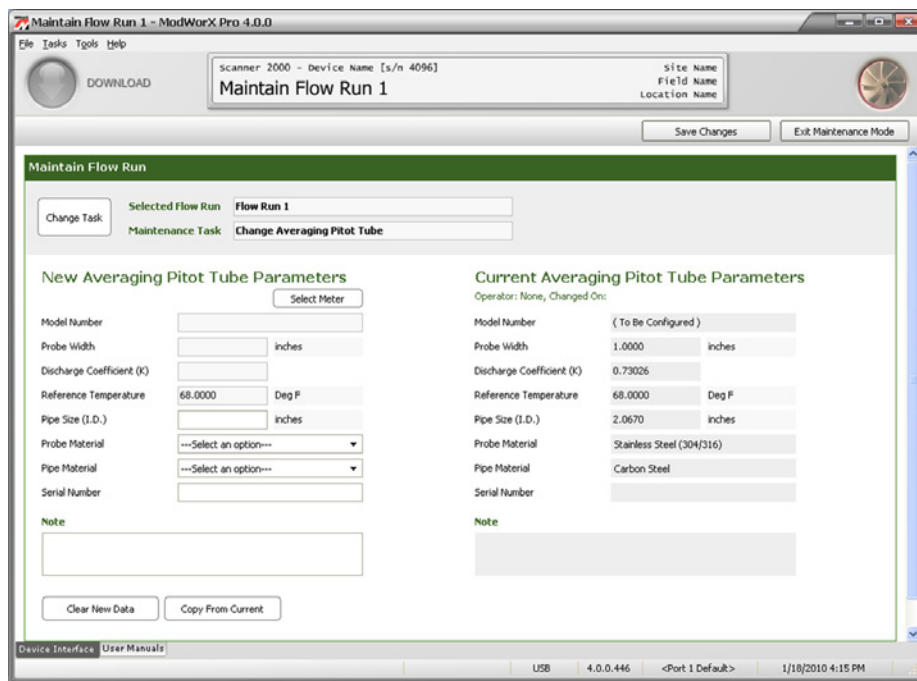
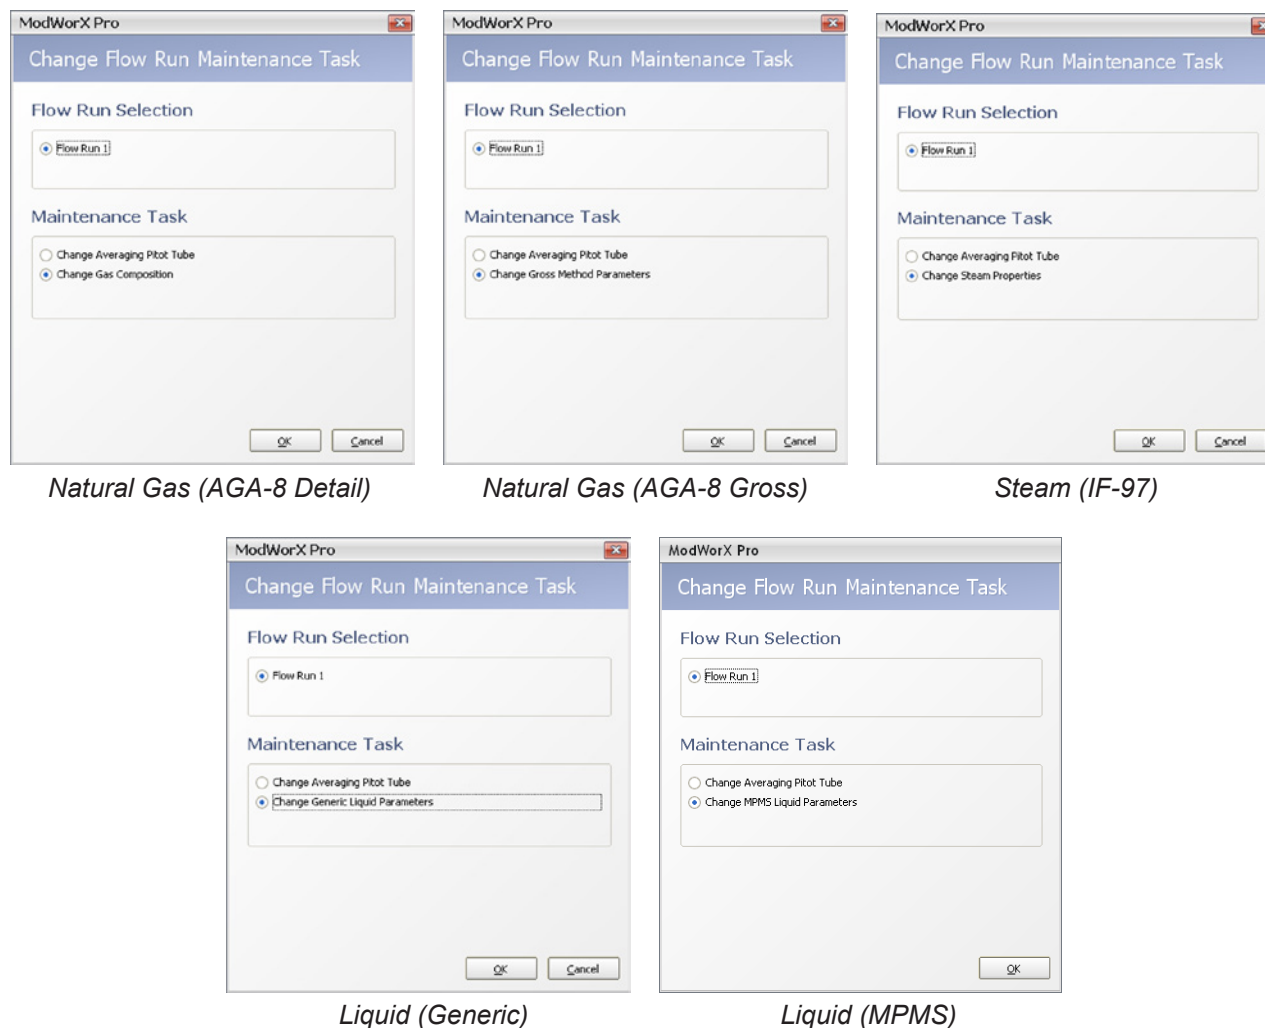

Figure 11.3
Figure 11.4
5. Click **OK** to save the selections. The Maintain Flow Run screen will appear (Figure 11.3).
1. If Change Averaging Pitot Tube is not displayed in the Maintenance Task field at the top of the Maintain Flow Run screen, click on **Change Task** (Figure 11.3, page 156). The Change Flow Run Maintenance Task dialog will appear (Figure 11.4). The selections available on this screen will vary, depending on the fluid property calculation method selected, as shown below.